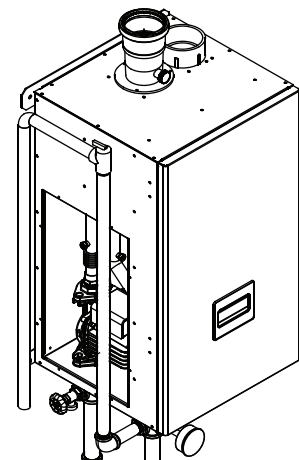

Figure 10.4: Proper Installation of Header Sensor
- e) Header Sensor - When this sensor is installed and enabled, the boiler will attempt to maintain the target water temperature in the header rather than in the supply. Where the system flow rate varies widely, the use of a header sensor allows the temperature of the water being sent to the radiation to be more accurately controlled. Use only the Honeywell 32003971-003 (103104-01) sensor listed above. Locate this sensor immediately downstream of the second primary-secondary Tee (Figure 10.4). Installation of this sensor in a well, as opposed to on the surface of the header, is highly recommended. The sensor wiring should be routed away from sources of electrical noise. Where it is impossible to avoid such noise sources, wire the sensor using a 2 conductor, UL Type CM, AWM Style 2092, 300Volt 60°C shielded cable. Connect one end of the shielding on this cable to ground. See Section XII for information on enabling the header sensor.